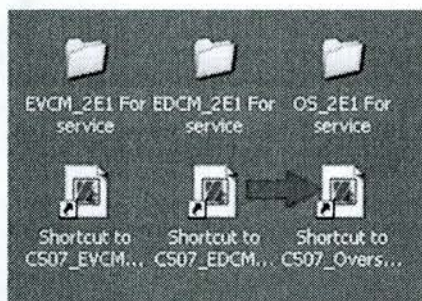

Figure 14
2.11. Double click on the "Overseer 2E1" shortcut (arrow Figure 14) on the computer's desktop to launch the calibration tool.